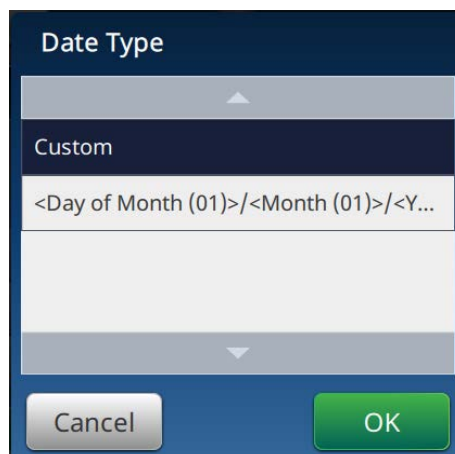

Figure 5-11: Date Format Set Up Screen
- From the Date Setup screen, select option *Custom* from the Date Type drop down list as shown in Figure 5-11. Touch the  button.